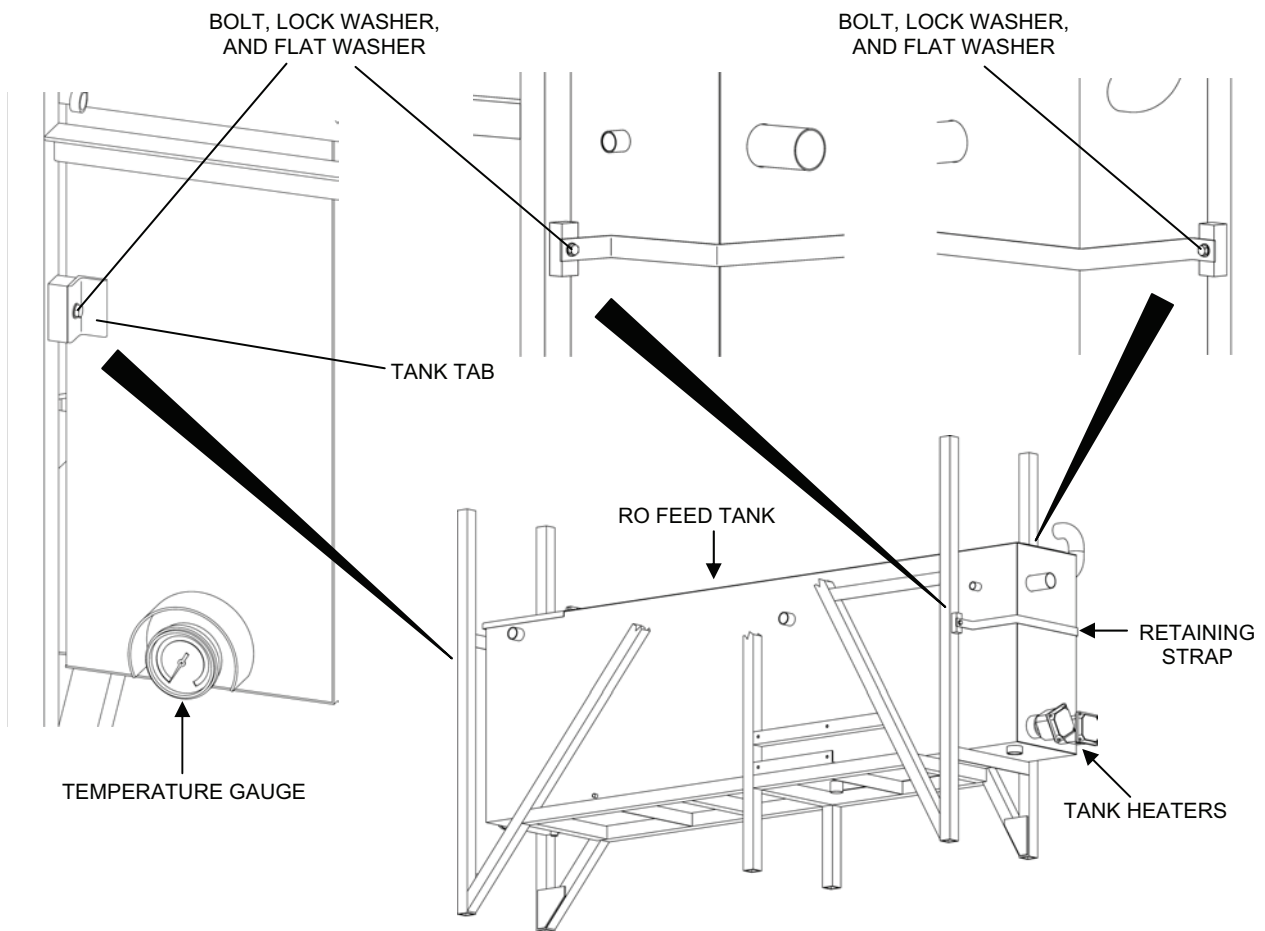

Figure 8. RO Feed Tank Removal from TWPS Frame.
8. Remove the RO feed tank from the TWPS frame as follows (see Figure 8):
1. Install a secure the new RO feed tank to the TWPS frame as follows (see Figure 8):